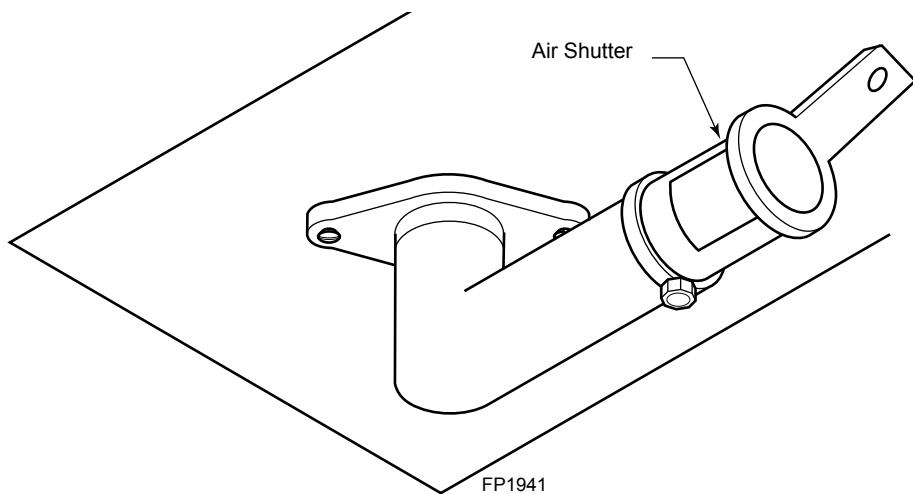

**Figure 33 -
- To decrease air mixture, close the shutter. Flames will be more yellow. *Figure 33*